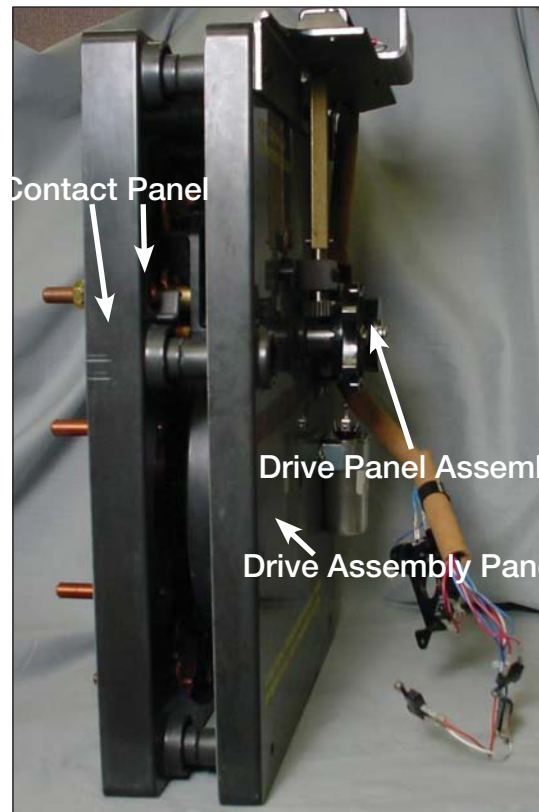

Figure 34.
- Press both of the tap changer assembly sections together and stand up-right. See Figure 34.